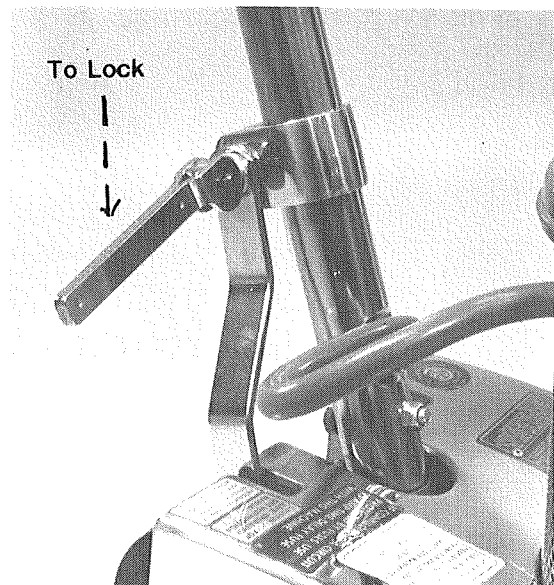

Figure 1
2. To lock the handle, push the locking lever down. See figure 1.
1. The locking lever is on the lower part of the handle tube. See figure 1. Lift the lever with your foot.